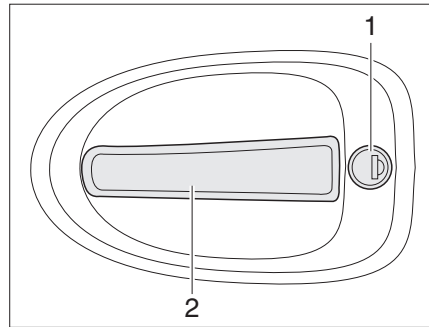

Fig. 25 Door lock of driver's door, outside
- Insert the key into locking cylinder (Fig. 25,1) and turn until the door lock is unlatched.
- Pull the door handle (Fig. 25,2). The door is open.
- Insert the key into locking cylinder (Fig. 25,1) and turn until the door lock is engaged. Return the key to the central position and remove it.